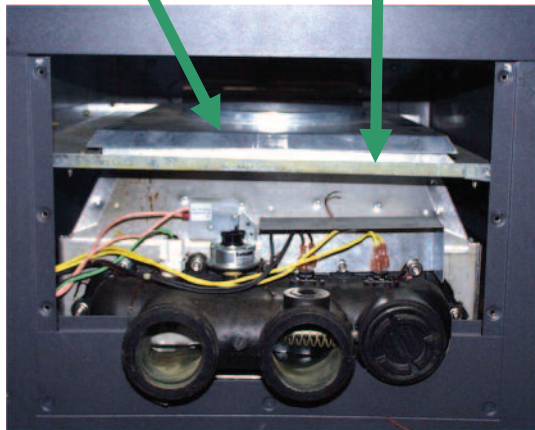

Fig. 5
4. Insert adaptor plate through the top side of the rain shield and place adaptor plate on top of the flue collector. See **Fig. 5**.